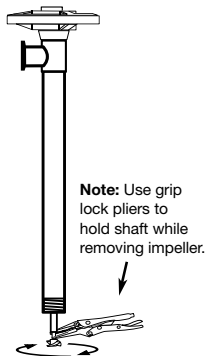

Figure 4
4. While holding the drive shaft with pliers (Factory suggests Grip-Locks to avoid scarring shaft) remove the impeller (see Figure 4).